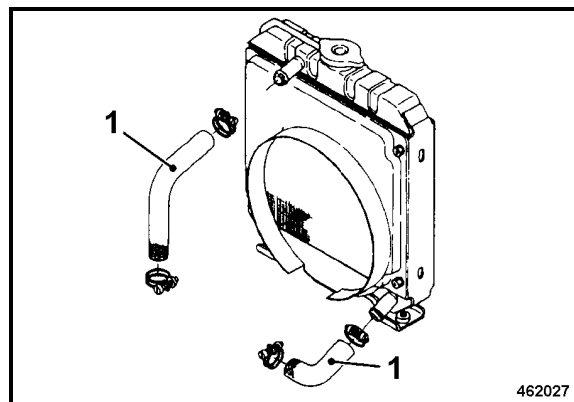

Fig. 141
- Check the condition and tight fit of all radiator hoses and hose clamps (Fig. 141).